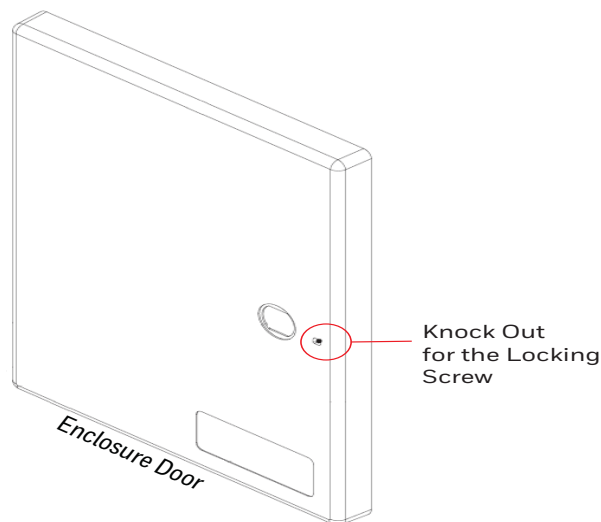

Figure 3.2: Screw Hole Knock Out
5. At the right-side door edge, punch out a hole for the door locking screw or for an optional keyed lock (see Figure 3.2).